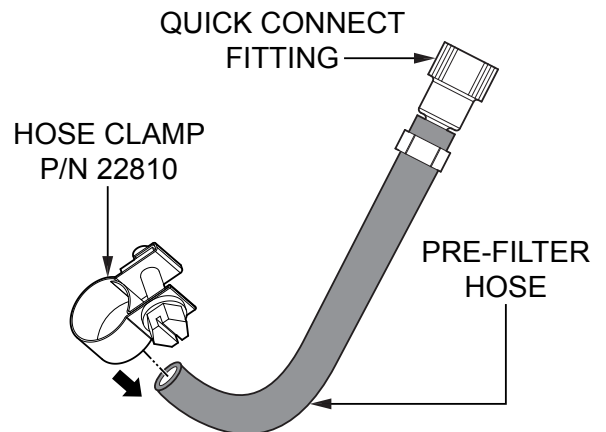

Figure 11. Hose Clamp Placement
3. Place the new hose clamp (P/N 22810) onto the end of the pre-filter hose opposite the quick-connect fitting. See Figure 11.